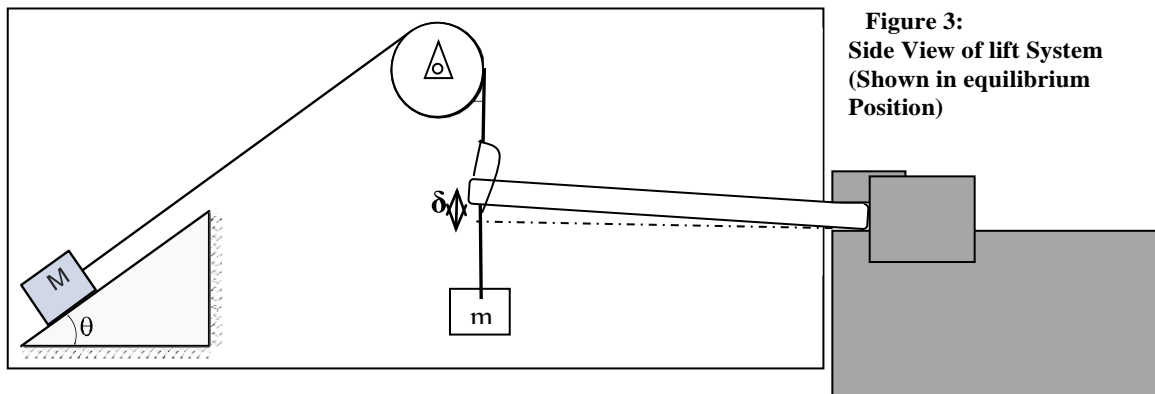

Figure 3:
The second test is done by placing counterbalancing masses on the inclined plane load carrier to achieve a deflection 2 mm as below in figure 3.
- **Equilibrium Position:** (See Figure 3)